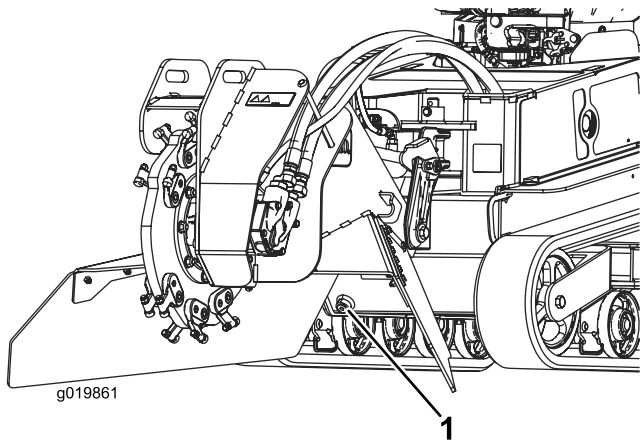

Figure 60
- Remove the hydraulic tank drain plug and allow the fluid to drain into the pan (Figure 60).